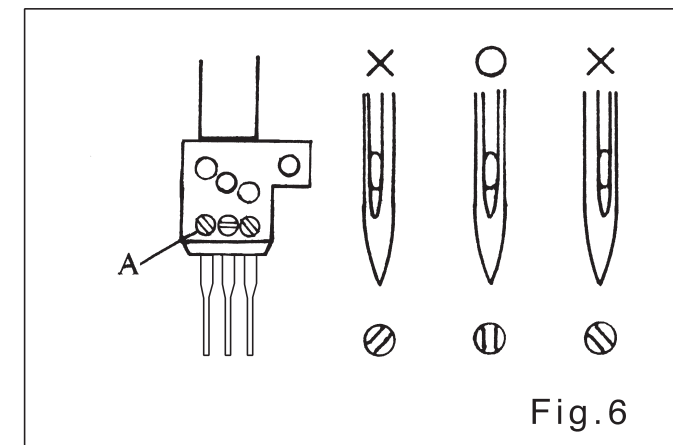

Fig.6
2. Loosen screw (A), then, pull out the used needles. Insert the new needles into the holder holes as far as they can go, and let the long groove of the needle face you. (Fig.6)
3. Fasten screw (A).